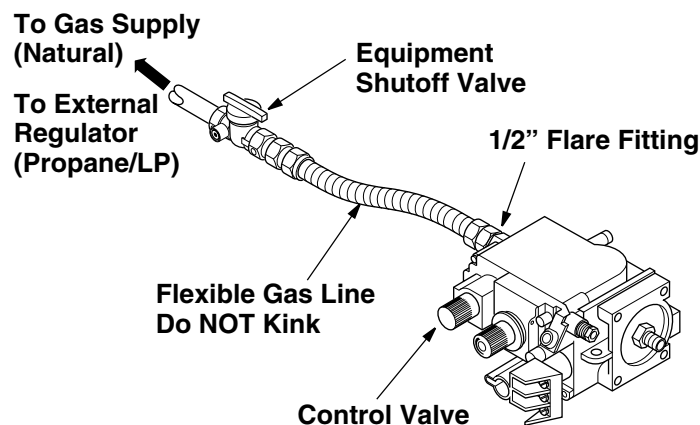

Figure 24 - Connecting Flexible Gas Line to Millivolt Valve
3. Attach flexible gas line from gas supply to the 1/2" flare fitting provided on the control valve (see **Figure 24**).